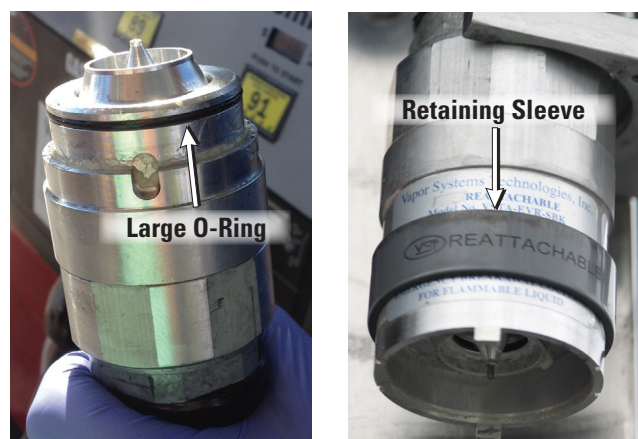

Figure 2: Check each half for damage
2. Inspect both safety breakaway halves for damage that may have occurred during separation. Include looking for external damage to the product and missing alignment pin, etc. See **Figures 2 and 3**. **If damage or missing parts are detected, replace with new product.** Ensure that the retaining sleeve is placed on the breakaway half connected to the whip hose before reassembly.